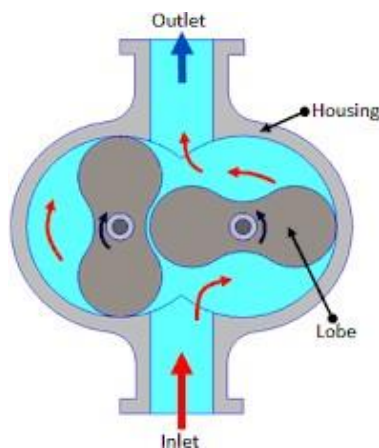

Fig.4.7 Lobe Type Compressors
- ▶ The lobe type compressor shown in *Fig.4.7*. They are extensively used in applications such as pneumatic conveying, aeration applications, cement plants and water treatment plants.